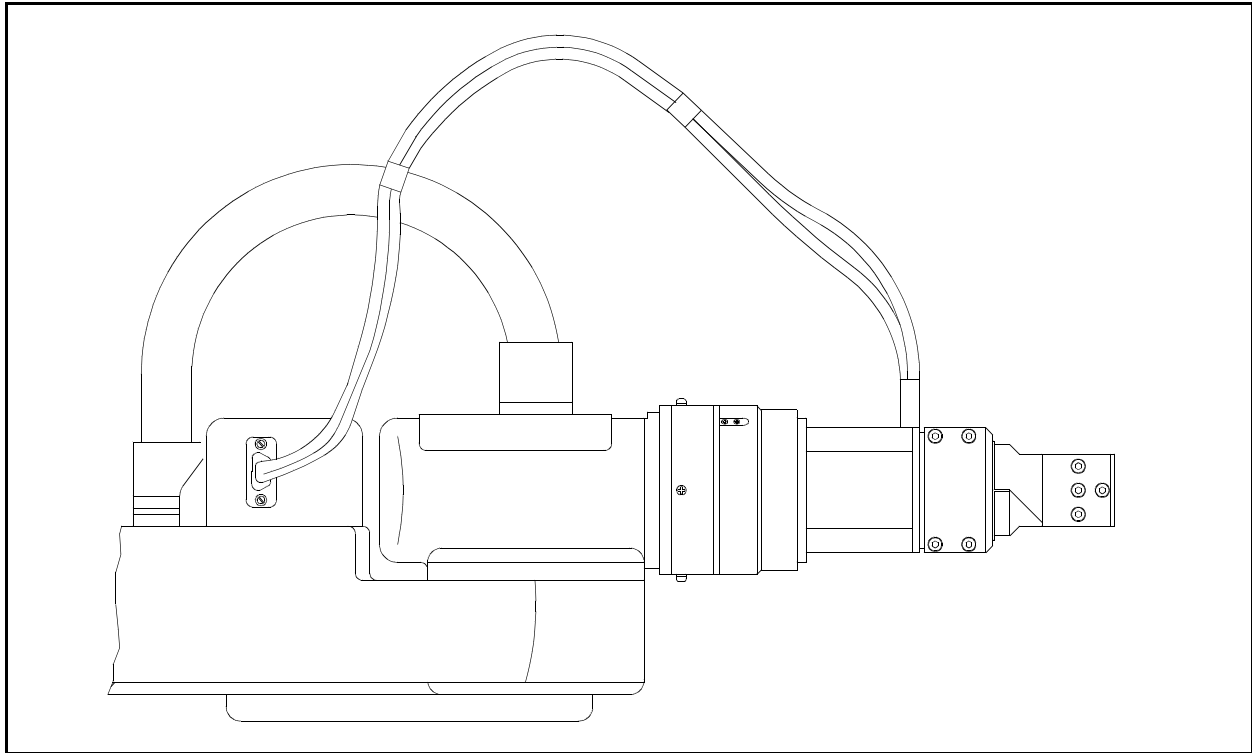

Figure 6: Connecting Gripper Cable to PERFORMER-MK2
7. Gently connect the gripper cable to the D9 connector on the robot arm, as indicated in Figure 6.
8. Make sure the gripper cable is positioned as shown in Figure 6.
*At the end of each work session (before turning off the controller), or before homing the robot, make sure the gripper's position is as shown in Figure 6.*